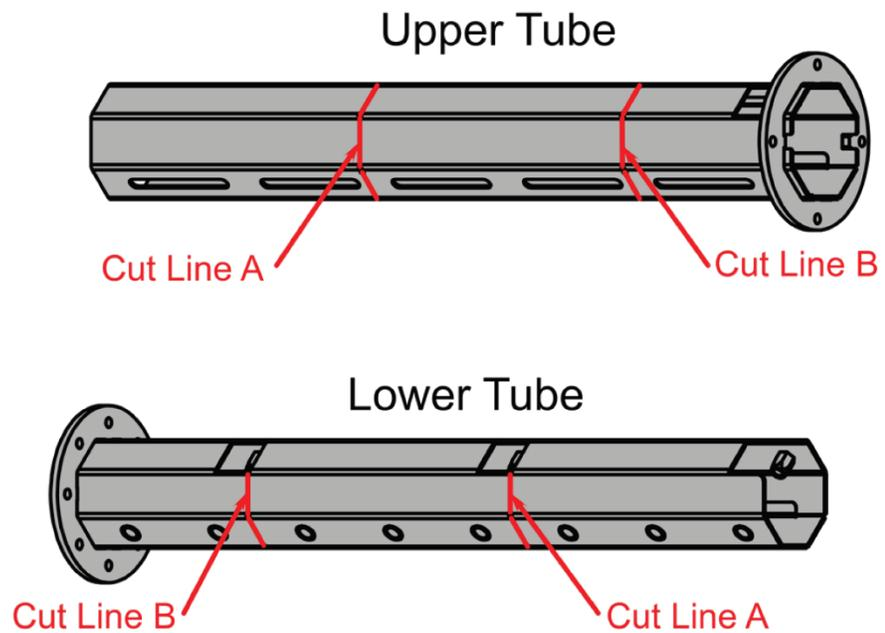

Figure 91:
- In case a lower height/drop is required, simply cut the upper tube ② and lower tube ③ along the two lines: **Cut Line A** and **Cut Line B** (refer to **Figure 91**).